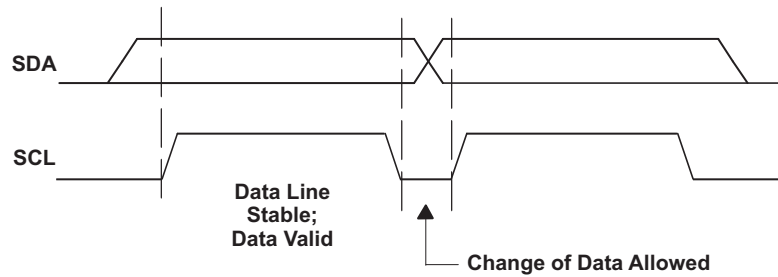
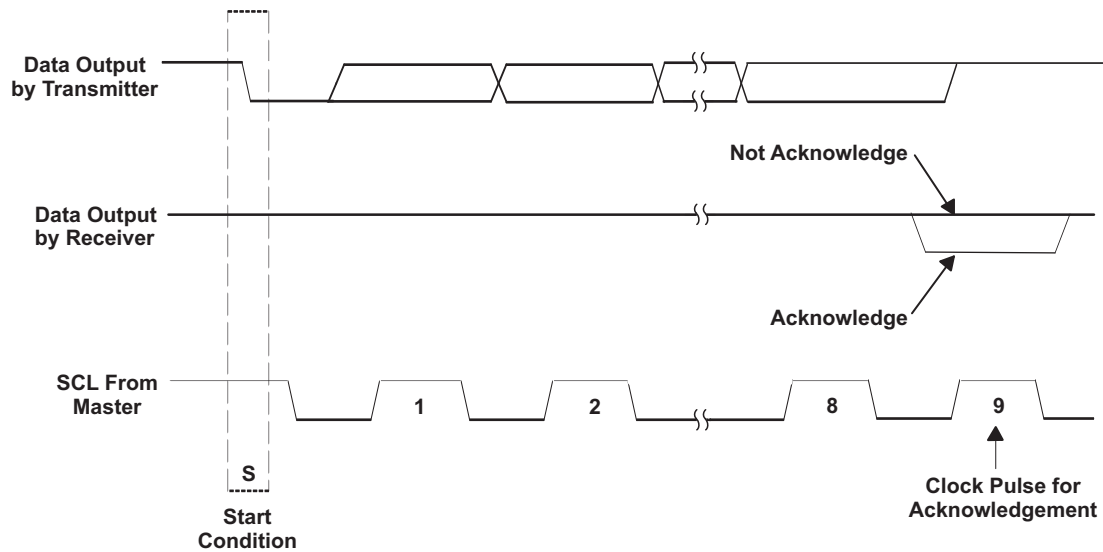

Figure 71. I²C Bit Transfer
Figure 72. I²C Acknowledge
- The master then generates the SCL pulses and transmits the 7-bit address and the read/write direction bit R/W on the SDA line. During all transmissions, the master ensures that data is valid. A valid data condition requires the SDA line to be stable during the entire high period of the clock pulse (see Figure 71). All devices recognize the address sent by the master and compare it to their internal fixed addresses. Only the slave device with a matching address generates an acknowledge (see Figure 72) by pulling the SDA line low during the entire high period of the ninth SCL cycle. On detecting this acknowledge, the master knows that a communication link with a slave has been established.